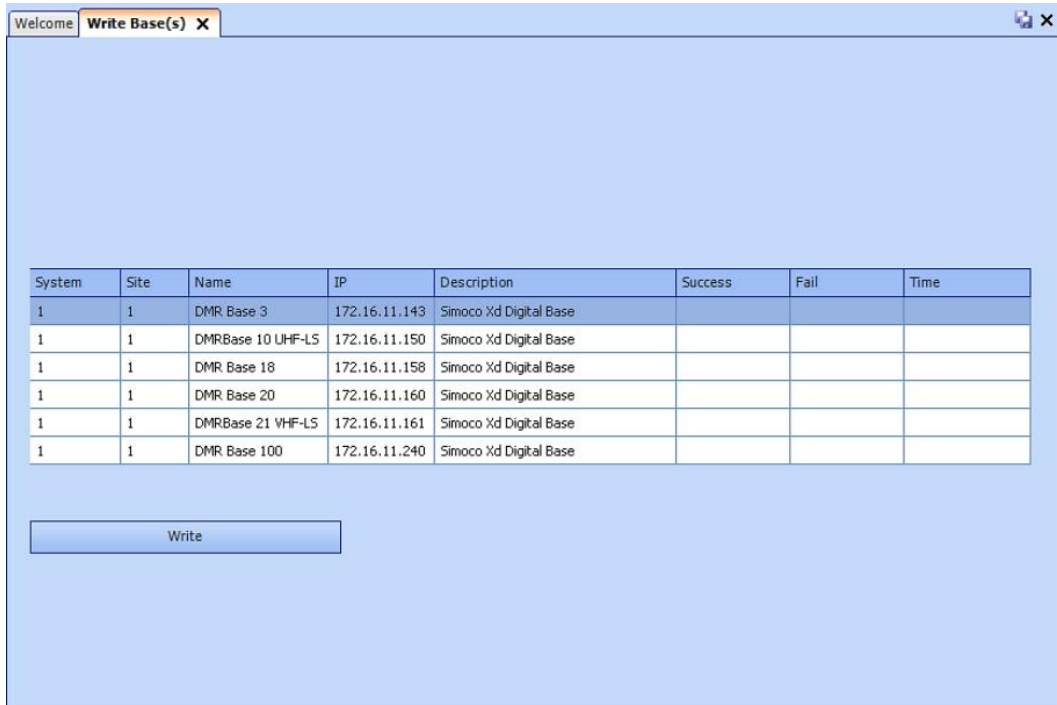

Figure 11. Write Base(s) page.
- 13.8. On the DMR Tier II ribbon bar, select the 'Write' button. The 'Write Base(s)' page will be displayed (see **Figure 11** overleaf) and any open base configuration pages will be closed.